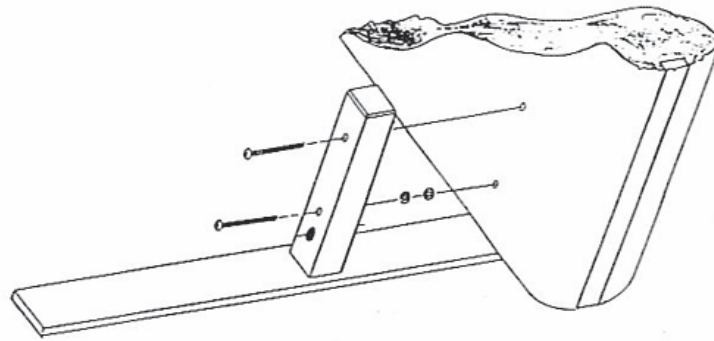

Figure 1
- C. Remove the 8 bolts from the nuts. Carefully align foot on backside of panel so holes in the foot line up with the bolts in the panel. Using your fingers, insert a bolt through the center hole (see Figure 1 if using spacers and long bolts,) until the bolt engages with the nut in the panel. Care must be taken not to cross-thread the bolts.